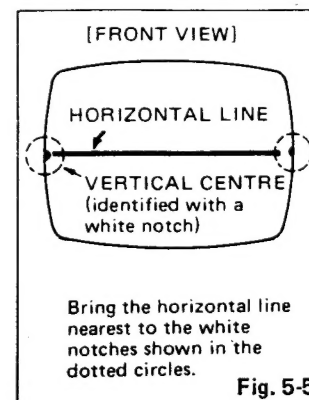

Fig. 5-5
6. Check the vertical center position by displaying a horizontal line. Unless correct, bring it to the center by rotating the two tabs, kept at an angle, together in either direction (Fig. 5-5, 6)